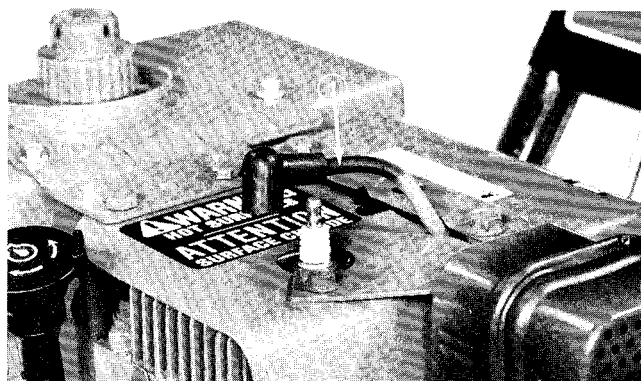

Figure 24
To prevent accidental starting of the engine while performing maintenance, rotate ignition key to off and remove it from the switch. Next, pull high tension wire off spark plug (Fig. 24) and make sure wire does not accidentally touch the plug.
1. Pull high tension wire (Fig. 24) off spark plug and make sure it does not contact the plug accidentally.